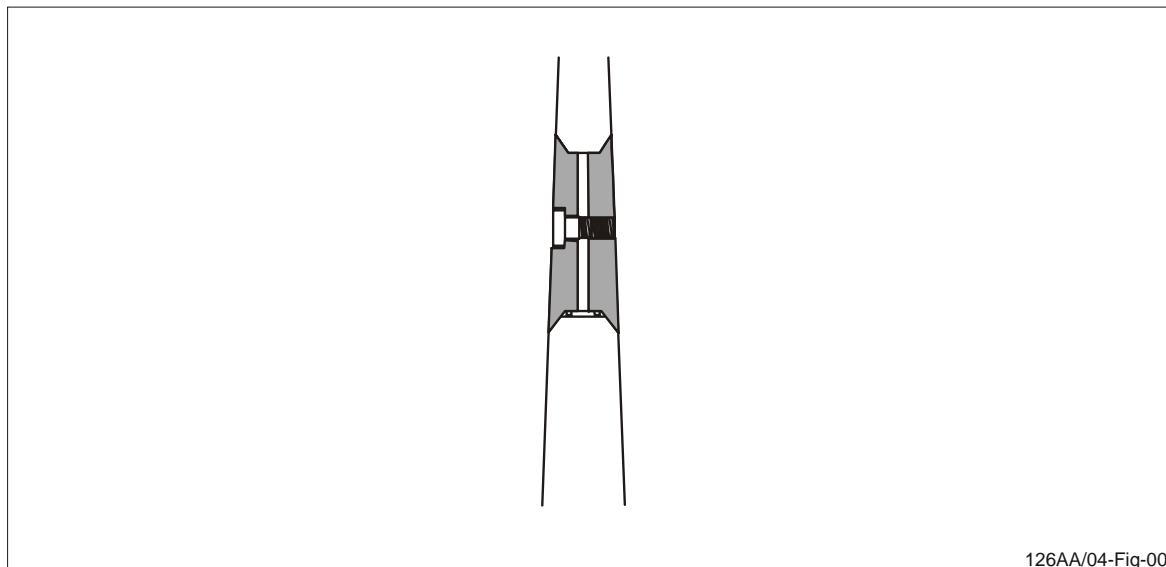

Figure 17 The installed plug in the lifting hole.
4. Insert the plug halves in the lifting hole according to figure 17.